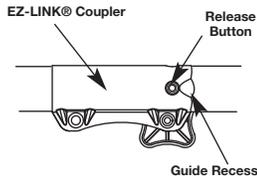

Fig. 13
- NOTE:** Aligning the release button with the guide recess will help installation (Fig. 13).
2. Press and hold the release button (Fig. 13).